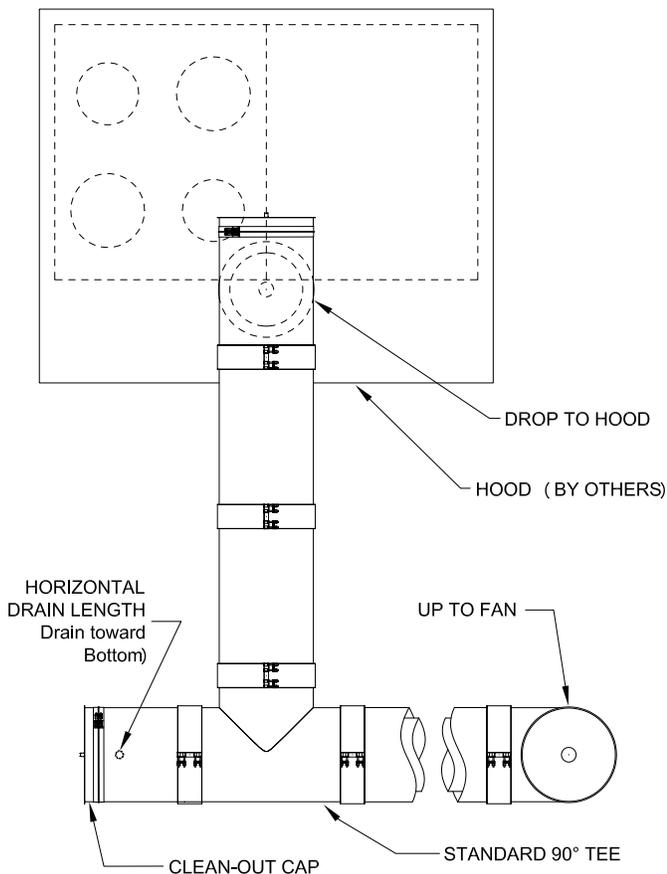

Figure 13 - Horizontal Drain Length typical location
3. The duct drain is intended for use at the end of a horizontal run where access and drainage is needed (See **Figure 13**).